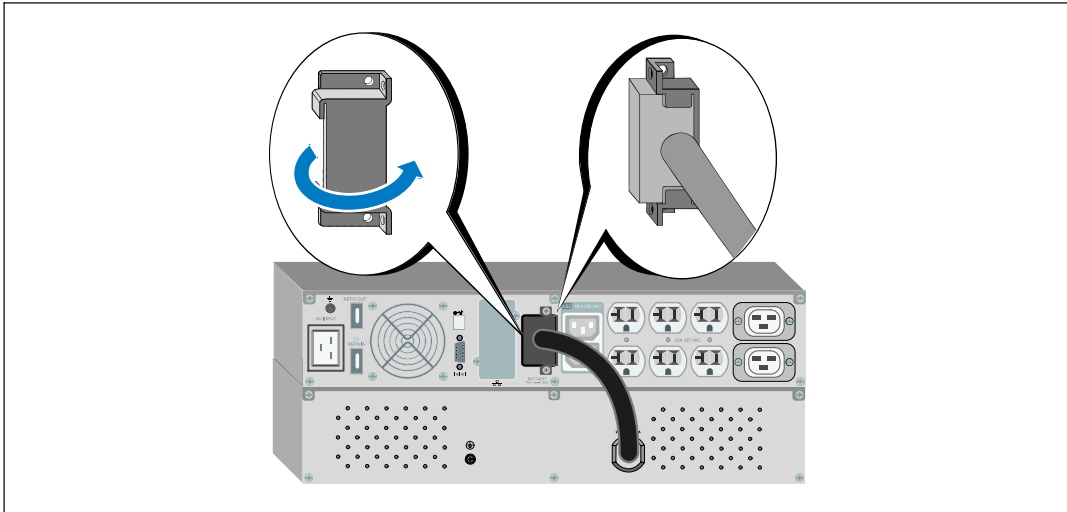

Figure 27. Installing the Battery Connection Cover
- 2 Install the battery connector cover under the EBM cable to provide strain relief (see Figure 27).